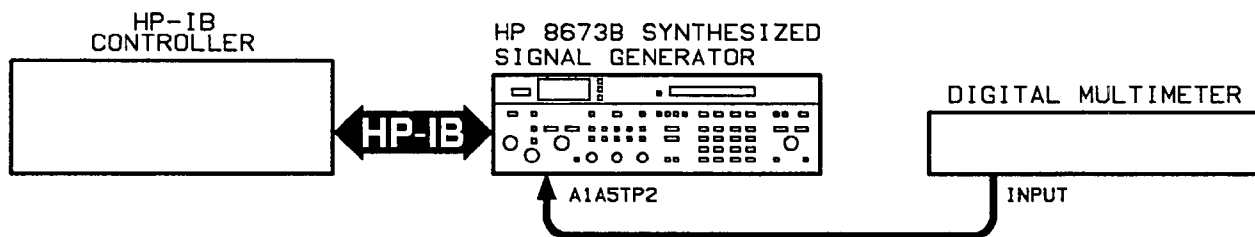

Figure 5-33. PAC DAC Adjustment Test Setup
Procedure 1. Connect the equipment as shown in figure 5-33. ✓
2. Connect the equipment as shown in figure 5-33.